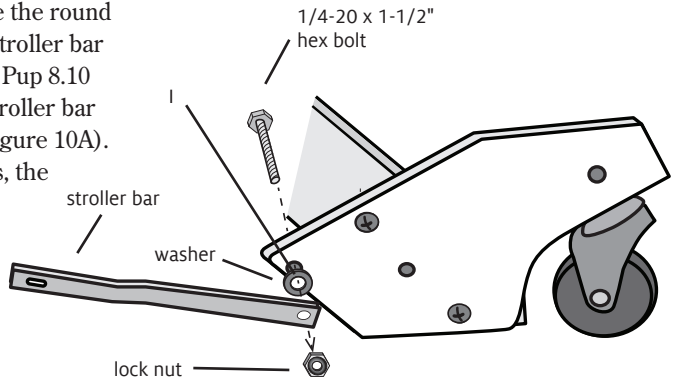
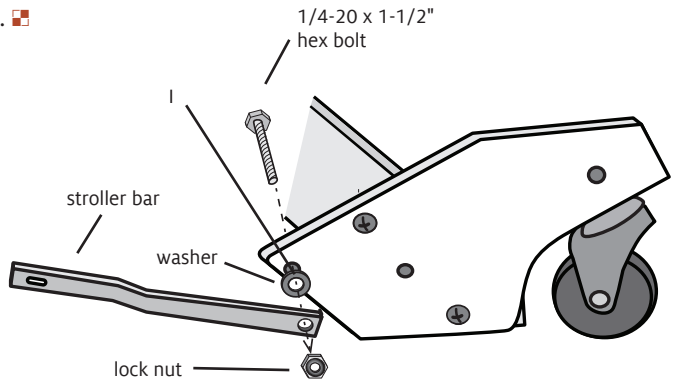

FIGURE 10A: STROLLER BAR ON WOLF PUP 8.10
FIGURE 10B: STROLLER BAR ON WOLF PUP LT
10. Attach the stroller bar to the rear caster block: From the inside of the loom, insert a 1/4-20 x 1-1/2" hex bolt through hole [I] in the rear caster block. Place a washer on the hex bolt and then place the round hole at the end of the stroller bar over the bolt. For Wolf Pup 8.10 looms, the jog in the stroller bar must point *outward* (Figure 10A). For Wolf Pup LT looms, the jog in the stroller bar must point *inward* (Figure 10B). Secure the hex bolt with a 1/4-20 lock nut, using a 7/16" wrench to attach the lock nut. Tighten the lock nut securely enough to hold the stroller bar in place, but loosely enough for it to pivot. Repeat for the other rear caster block. 🍷